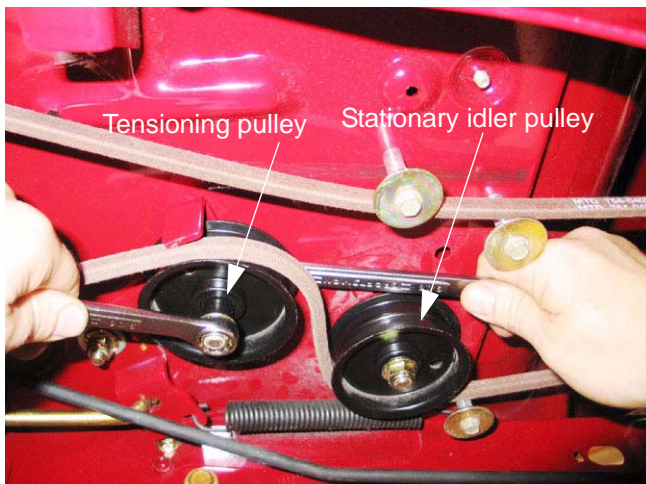

Figure 6.17
5. Loosen, but do not remove the nut that secures the drive belt tensioning pulley to the tensioner bracket using two 9/16" wrenches. See Figure 6.17.